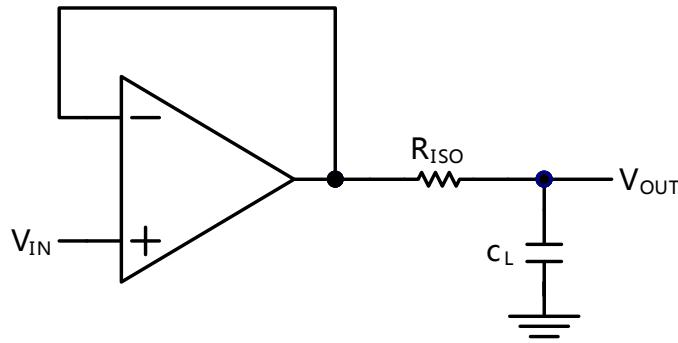
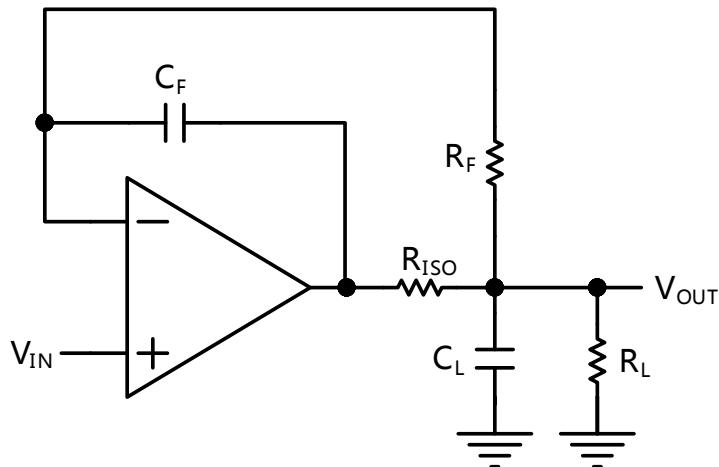

Figure 2. Indirectly Driving a Capacitive Load Using Isolation Resistor
Figure 3. Indirectly Driving a Capacitive Load with DC Accuracy
The CBM805X family is optimized for bandwidth and speed, not for driving capacitive loads. Output capacitance will create a pole in the amplifier's feedback path, leading to excessive peaking and potential oscillation. If dealing with load capacitance is a requirement of the application, the two strategies to consider are (1) using a small resistor in series with the amplifier's output and the load capacitance and (2) reducing the bandwidth of the amplifier's feedback loop by increasing the overall noise gain. Figure 2. shows a unity gain follower using the series resistor strategy. The resistor isolates the output from the capacitance and, more importantly, creates a zero in the feedback path that compensates for the pole created by the output capacitance.
The circuit in Figure 3 is an improvement to the one in Figure 2. R_F provides the DC accuracy by feed-forward the V_{IN} to R_L. C_F and R_{ISO} serve to counteract the loss of phase margin by feeding the high frequency component of the output signal back to the amplifier's inverting input, thereby preserving the phase margin in the overall feedback loop. Capacitive drive can be increased by increasing the value of C_F. This in turn will slow down the pulse response.